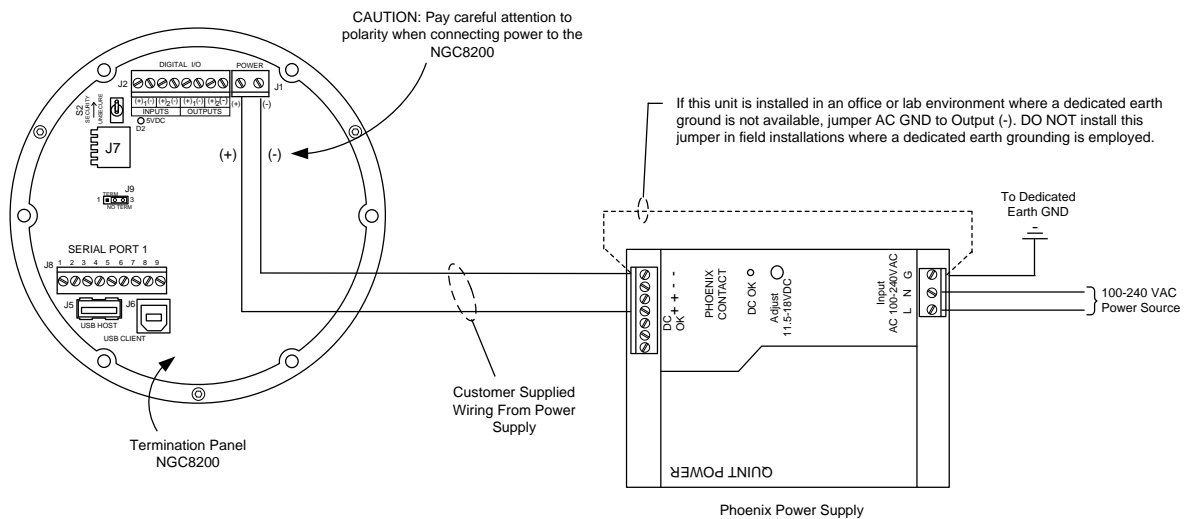

Figure 3-71 AC/DC Converter Wiring Instructions
- 4) Using wiring instructions in Figure 3-71, make the field connections from the 115 VAC hot and neutral or the two hot wires for 230 VAC to TB1 terminal 5A and terminal 6A on the power supply.
- 6) Remove the J1 connector from the NGC termination panel. Using the wiring instructions in Figure 3-71, make field connections from the power supply wire from F1 terminal B to J1 connector (+) pin and connect the ground wire TB1 terminal 1A to J1 connector (-) pin. Do not re-insert the J1 connector to the termination board.